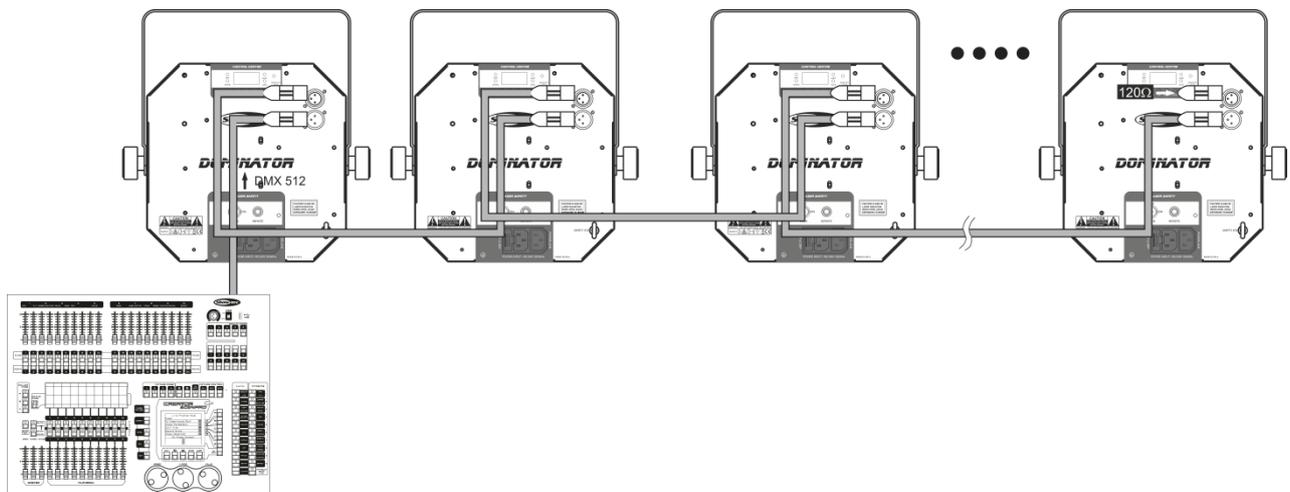

Fig. 06
- 04) Link the units as shown in Fig. 06. Connect the first unit's DMX "out" socket with the second unit's "in" socket, using a DMX-signal cable. Repeat this process to link the second, third, and fourth units.